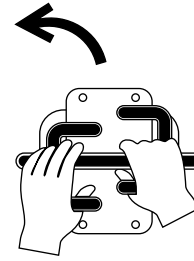

Figure 10
- To turn left, move the right traction control forward (Figure 10).